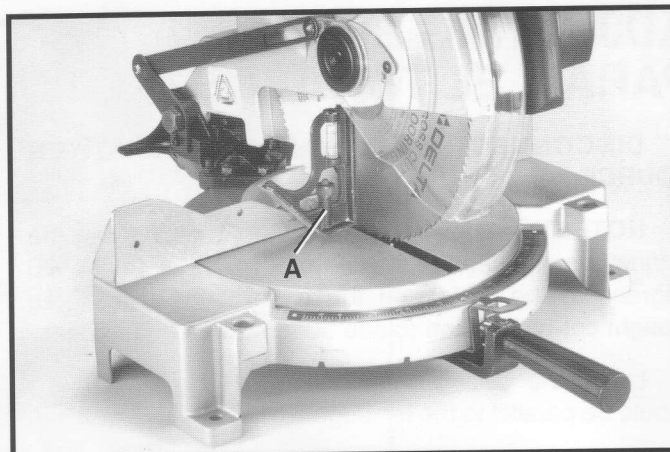

Fig. 25
3. Using a square (A) Fig. 25, place one end of the square on the table and the other end against the blade. Check to see if the blade is at 90 degrees to the table, as shown in Fig. 25.